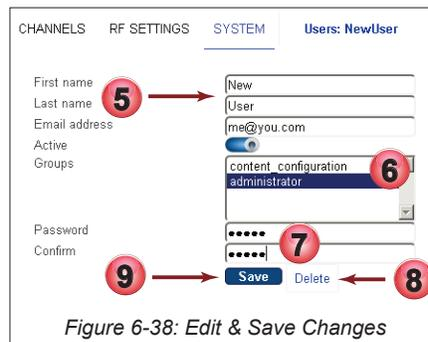

Figure 6-38: Edit & Save Changes
5. When creating a new user, enter the username, first and last names and email address, all mandatory, Figure 6-38 or edit the existing fields. See Table 6.4a for help with these fields.
Table 6.4a: Add/Edit User Settings (See Figure 6-38)